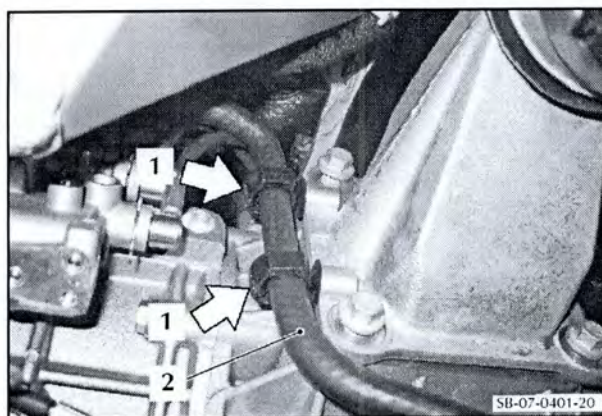

Figure 52
105. Put the reservoir hose (1) into position in the two clips (2) that attach it to the left side mount bracket (refer to Figure 52). Close the clips (1) to attach the hose.